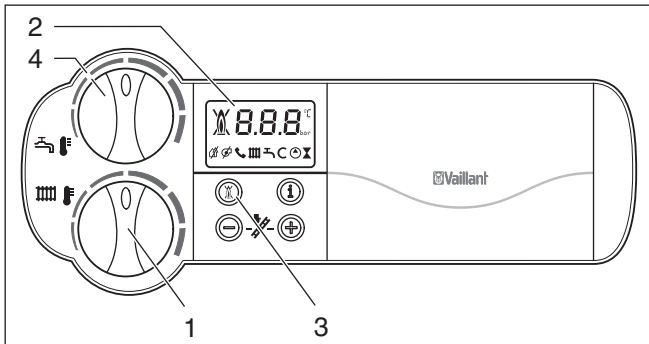

Fig. 5.4 Switching on the appliance
The lighting procedure of the boiler is fully automated. To prepare the boiler for initial lighting first ensure that all external controls are not calling for heat. For access open the front flap by pulling at the centre of the case strip. Turn on the appliance at control (1), see fig 5.4. When you turn on the appliance, the current operating status appears in the display (2), see fig 5.4.
- Is the control knob (1, fig 5.4) in the operating position?
The display also shows the flame symbol with a cross through it (2), see fig 5.4.
- To reset the fault, press the reset button (3), see fig 5.4. and hold it down for one second.